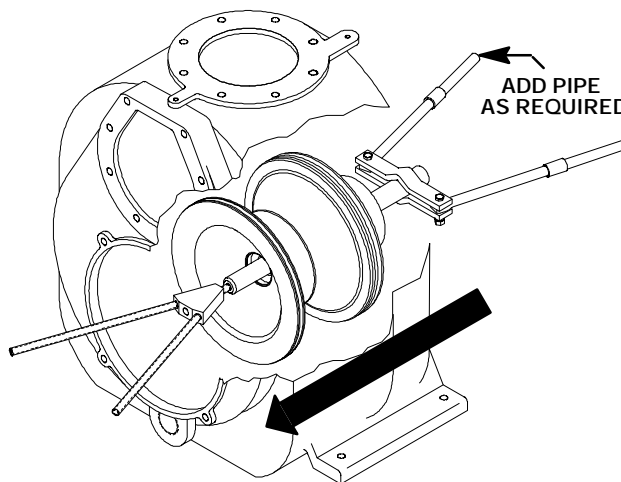

Figure E-3. Rotating Assembly Removal With Tool
Remove the inner hardware (25 and 26) from the casing ring (22). If the removal tool is used, follow the instructions packaged with it, and pull the rotating assembly from the pump casing (see Figure E-3 for removal tool use). If the removal tool is not used, install three of the inner capscrews in the jacking holes in the casing ring, and use them to press the rotating assembly into the pump casing until the bearing housing is free.
After the rotating assembly is loosened, screw a 5/8-11 UNC X 16 inch long threaded rod into the hole in the impeller shaft. Support the drive end of the shaft with a 1-13/16" (46 mm) minimum I.D. piece of pipe or a set of handles as shown in Figure E-3, and slide the complete rotating assembly through the suction head opening. Once free, use a suitable hoist and sling and attach it to the lifting eye provided at the top of the bearing housing to move the rotating assembly to a suitable work area for further disassembly.